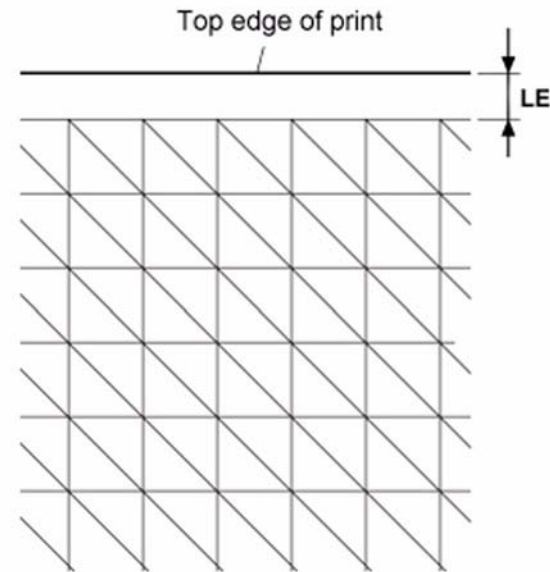

Figure 1 Where to make the LE measurement
12. (Figure 1) Measure the Lead Edge (LE) in the center area of the 2nd, 3rd, and 4th prints.